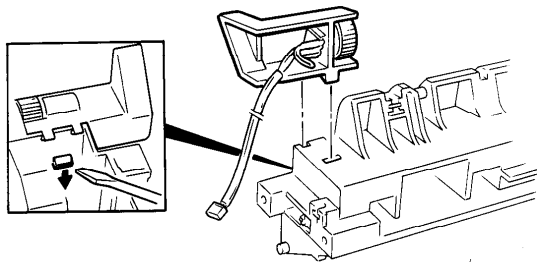

Figure 1. Density control
4. Gently pry loose the density control locking tabs from the right frame assembly (figure 1).